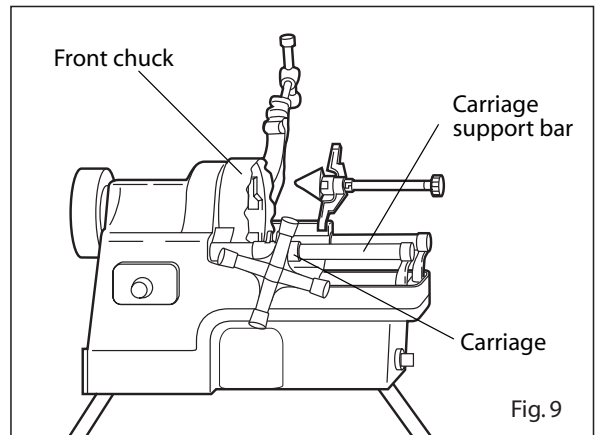

Fig. 9
- 2) Pull the carriage fully towards the front chuck. (Fig. 9)